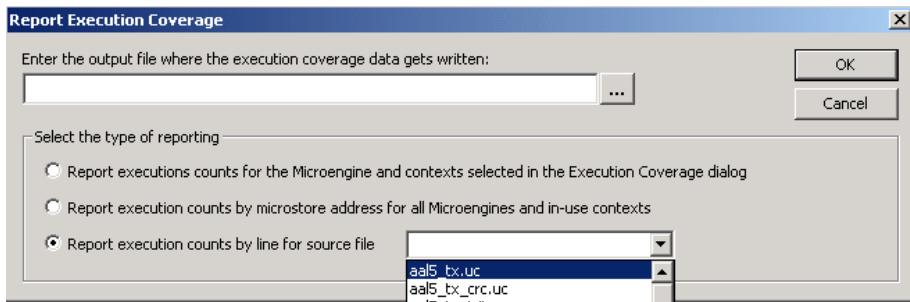

Figure 2.59. Report Execution Coverage by Line
3. Report execution counts by line for source file. Selecting this option enables the source file combo box, which lists all source files that are part of all the loaded Microengines (see Figure 2.59).